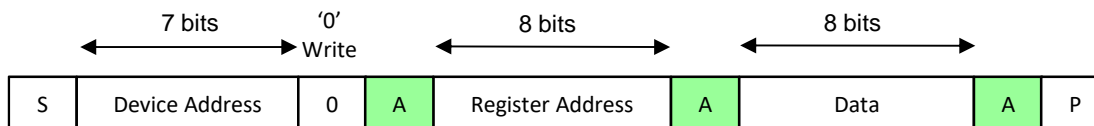

Figure 4. I²C Write – Slave Receiver Mode
1. **Slave Receiver Mode (Write Mode):** Serial data and clock are received through SDA and SCL. After each byte is received an acknowledge bit is transmitted. START and STOP conditions are recognized as the beginning and end of a serial transfer. Address recognition is performed by hardware after reception of the slave address and direction bit (see Figure 4 for Interface). The slave address byte is the first byte received after the master generates the START condition. The slave address byte contains the 7-KTD2151 address followed by the direction bit (R/W), which, for a write, is 0. After receiving and decoding the slave address byte the device outputs an acknowledge on the SDA line. After the KTD2151 acknowledges the slave address + write bit, the master transmits a register address to the KTD2151. This sets the register pointer on the KTD2151. The master may then transmit zero or more bytes of data, with the KTD2151 acknowledging each byte received. The address pointer will increment after each data byte is transferred. The master generates a STOP condition to terminate the data write.